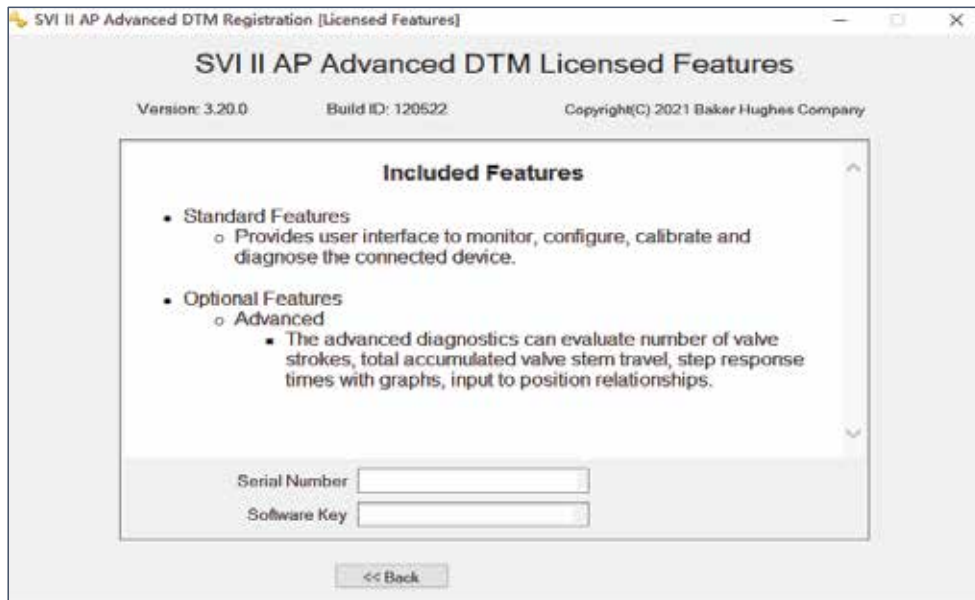

Figure 12 Included Features
3. Click **License >>** and Figure 12 appears.